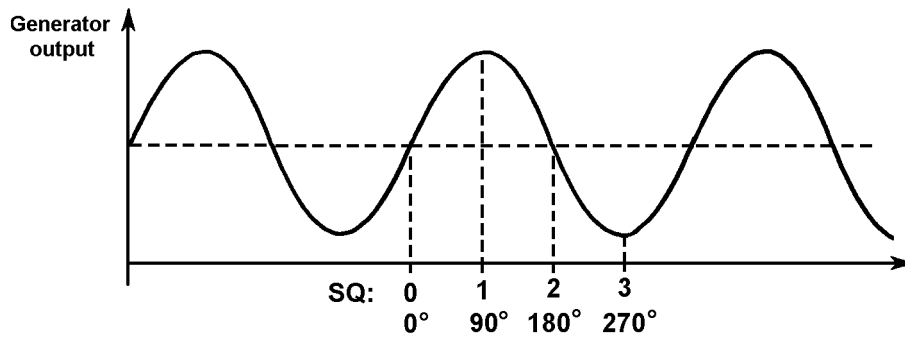

Fig4.4 Stopping points for SQ (Stop on Quadrant)command.
- (b) With an **SQ** (Stop on Quadrant) command. The generator output is held at a previously defined vector angle. See Fig 4.4. Note that, with a low frequency signal, the generator output may continue for some time before the defined stop point is reached.